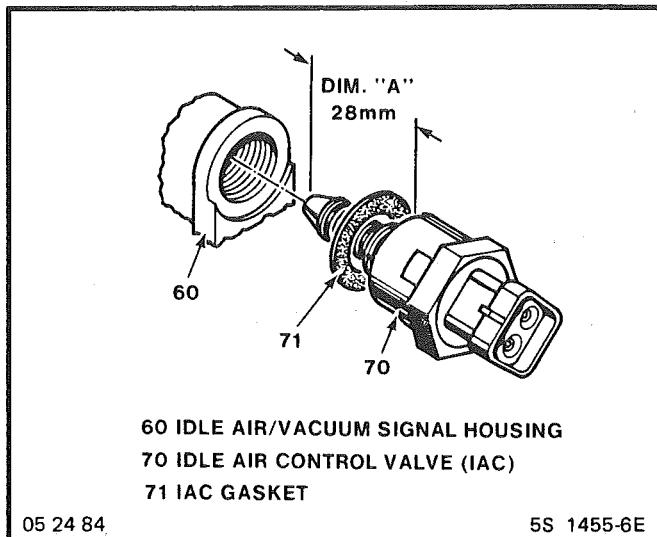

Figure C2-17 Idle Air Control Valve Assembly
- Distance from gasket mounting surface of IAC valve assembly (70) to tip of pintle, (Dimension "A" in Figure C2-17).